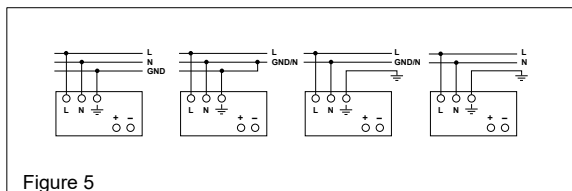

Figure 5
#### 5.1. Input connection (Fig. 1, Fig. 5)
Use L, N and GND connections of input terminal connector (see Fig. 1 (1)) to establish the 100-240 VAC connection. Typical connection methods are shown in Figure 5.